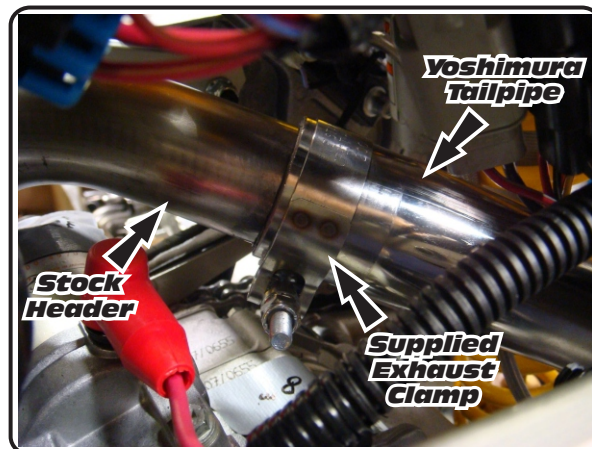

Fig. 1
- 3 Slip the supplied stainless steel exhaust clamp over Yoshimura tailpipe inlet and install tailpipe with muffler assembly onto stock header, using the stock gasket between the stock header and Yoshimura tailpipe (see Fig 1).